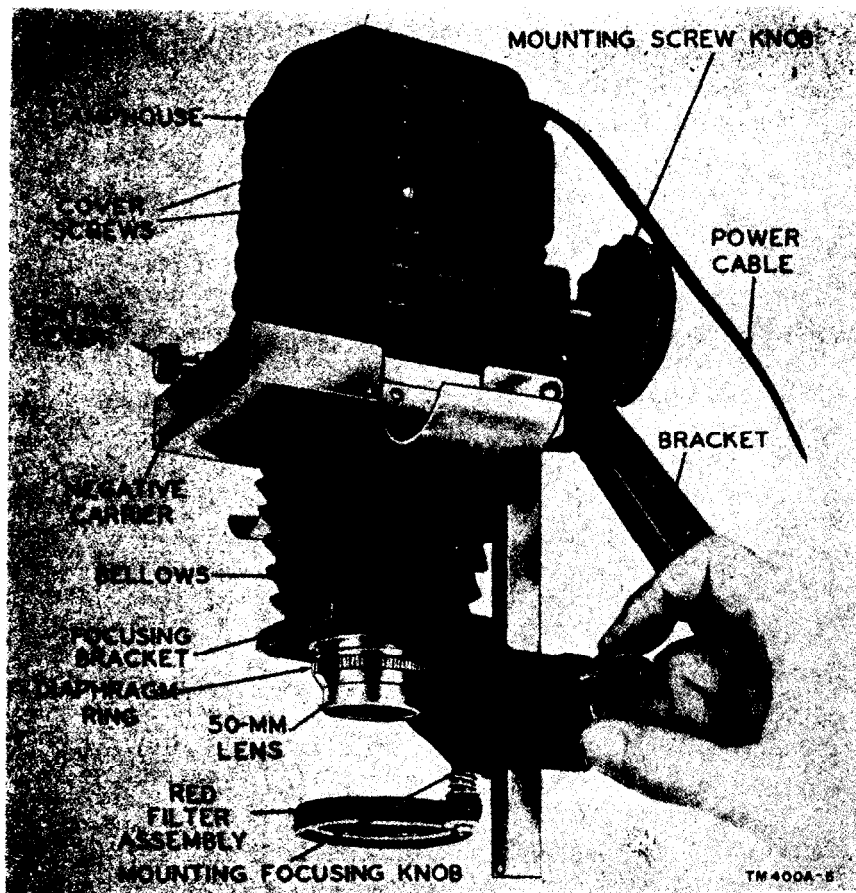

Figure 5. Photographic Projection Printer EN-11 (1).
i. Photographic Projection Printer EN-11 (1) (fig. 5). The printer is a table-size, projection-type printer that makes enlargements of 35-mm photographic negatives. It is mounted onto the laminated plywood baseboard bottom of the carrying case. It is equipped with an f/4.5, 50-mm focal length, coated enlarging lens with an iris diaphragm and a red safety filter. Magnifications from 2.5 to 10 diameters may be obtained when the baseboard is used. Illumination is provided by a bayonet-type, 115- to 125-volt, 50-watt, photo-enlarging lamp which is mounted behind a pair of condenser lenses and a heat-resisting glass. The printer is operated from a 105- to 120-volt alternating current (ac) or direct current (dc) power source.
- (4) *Bellows* (fig. 5). The bellows, mounted between the bellow top plate and the focusing bracket, is made of rubberized black leatherette. The top and bottom ends are folded over a flat plate for lightproof mounting.
- (5) *Bracket* (fig. 5). The bracket is constructed of black, wrinkle-finish, cast-aluminum and is mounted on the printer column. It may be locked at the desired height with the mounting focusing knob. The bracket top includes a mounting screw knob for mounting the printer lamphouse or Camera PH-324-A for copy work.
- (6) *Power cable* (figs. 5 and 28). The power cable is a two-conductor, copper-wire, rubber-coated cord. One end of the cable is connected to the lampholder in the lamphouse and the other end terminates in a standard male plug.